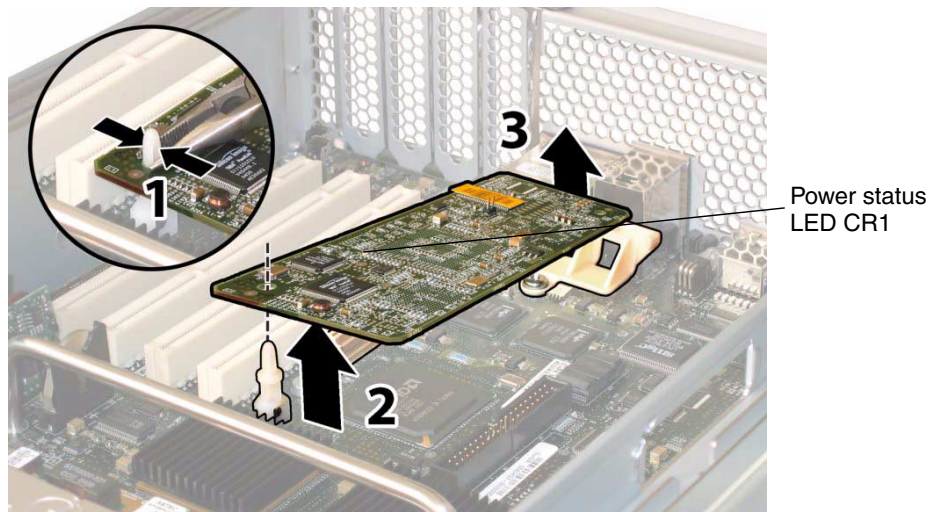

FIGURE 3-45 Removing the GRASP Board From the Motherboard
4. Squeeze the plastic standoff that protrudes through the GRASP board to press the standoff’s locking tabs. See procedure inset 1 in FIGURE 3-45.
5. Raise the corner of the GRASP board until it is clear of the locking tab. See Procedure 2 in FIGURE 3-45.
6. Pivot the front edge of the GRASP board upward to disengage it from the rear plastic bracket and to disengage its connector from the motherboard. See Procedure 3 in FIGURE 3-45.